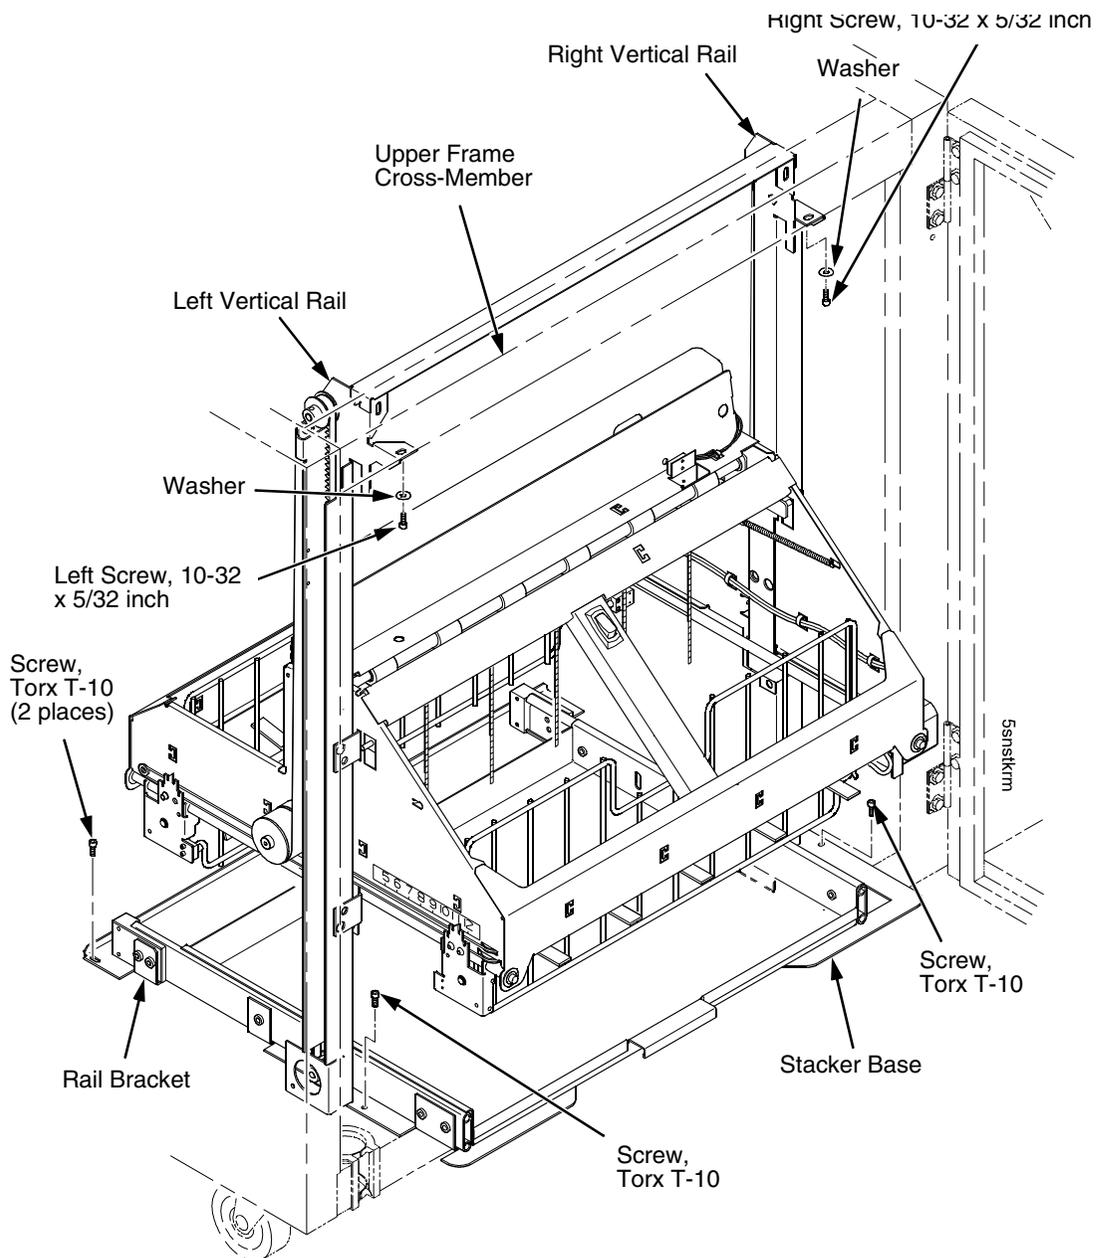

Figure 87. Stacker Fasteners
17. Align the holes in the vertical rail brackets with the holes in the upper frame cross-member. (Figure 86c and Figure 87.)
18. Align the holes in the stacker base with the holes in the cabinet floor. (Figure 86c and Figure 87)
19. Install finger tight the 10-32 x 5/32 inch buttonhead screw and washer securing the left vertical rail to the upper frame cross-member. (Do not install the right hand screw yet.) (Figure 87.)
20. Install and tighten the two Torx T-10 screws securing the stacker base to the cabinet floor. (Figure 87.)
21. Install and tighten the two Torx T-10 screws that secure the rail bracket to the cabinet floor. (Figure 87.)
28. Install finger tight the 10-32 x 5/32 inch buttonhead screw and washer securing the right vertical rail to the upper frame cross-member. (Figure 87.)